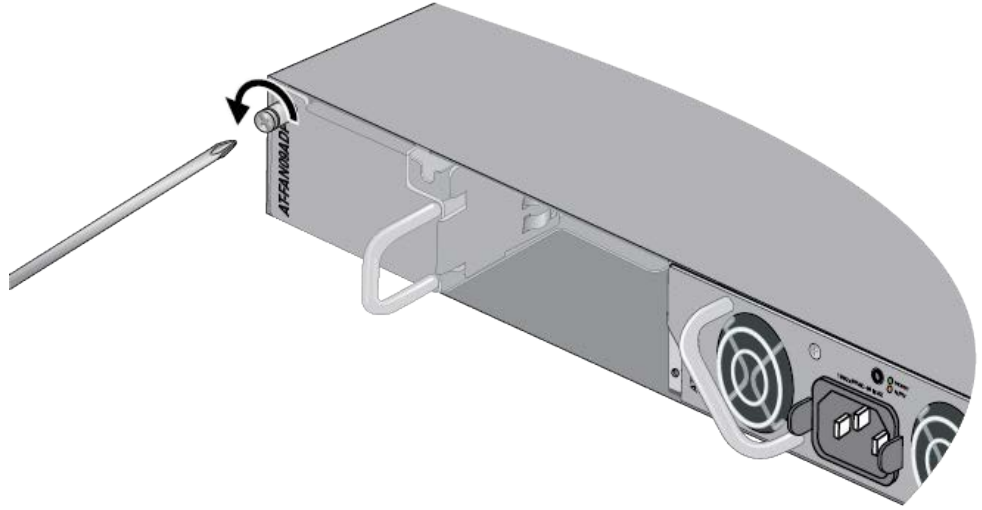

Figure 43. Loosening the Captive Screw on the AT-FAN09ADP Module
5. Use a cross-head screwdriver to loosen the captive screw on the AT-FAN09ADP Module. Refer to Figure 43.